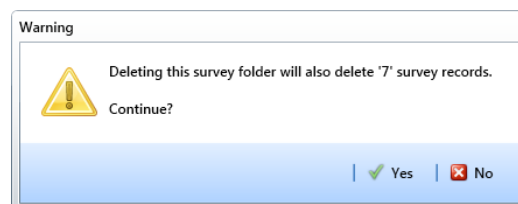

Figure 5-9. Warning
- 7 Click  **Yes** when a warning displays asking if you want to continue deleting the survey folder and associated survey readings (Figure 5-9).